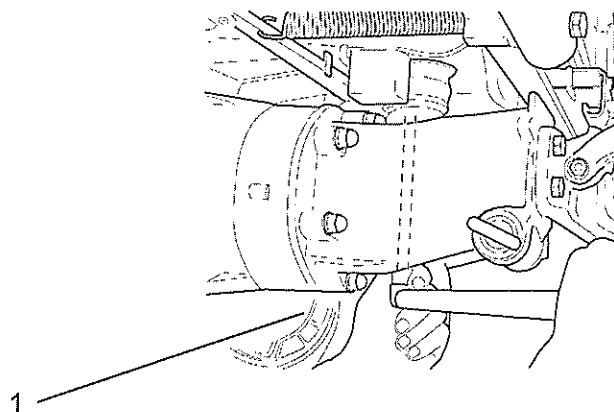

Fig 19 Rear body support bolt removal
48 Loosen and remove body support bolt at towing flange (see Fig 19), washer and nut, leaving upper support shim and top rubber support in position. A sectional view of the body support at the towing flange is provided at Fig 22.
- 51 Unscrew 5 off cap nuts (see Fig 19 (1)) from towing flange and remove special lock washers.